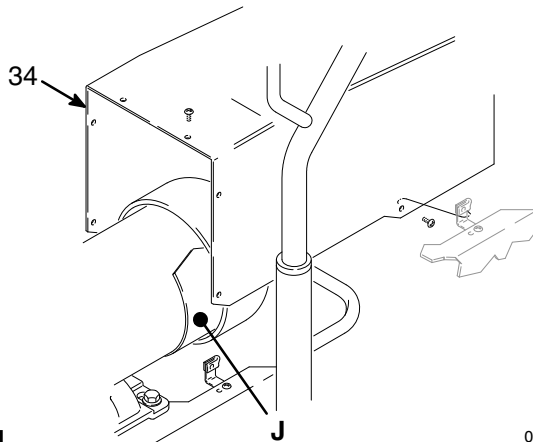

Fig. 11 04290
2. Remove the motor shield (59). Remove the inspection covers (J) and gaskets (K) on each side of the motor. See Fig. 11.